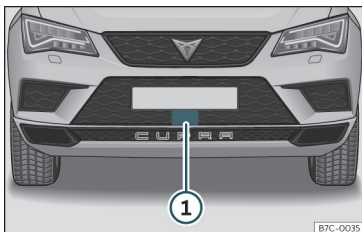

Fig. 207 On the front bumper: radar sensor.
A radar sensor is installed on the front bumper to determine the traffic situation »» **Fig. 207 ①**.